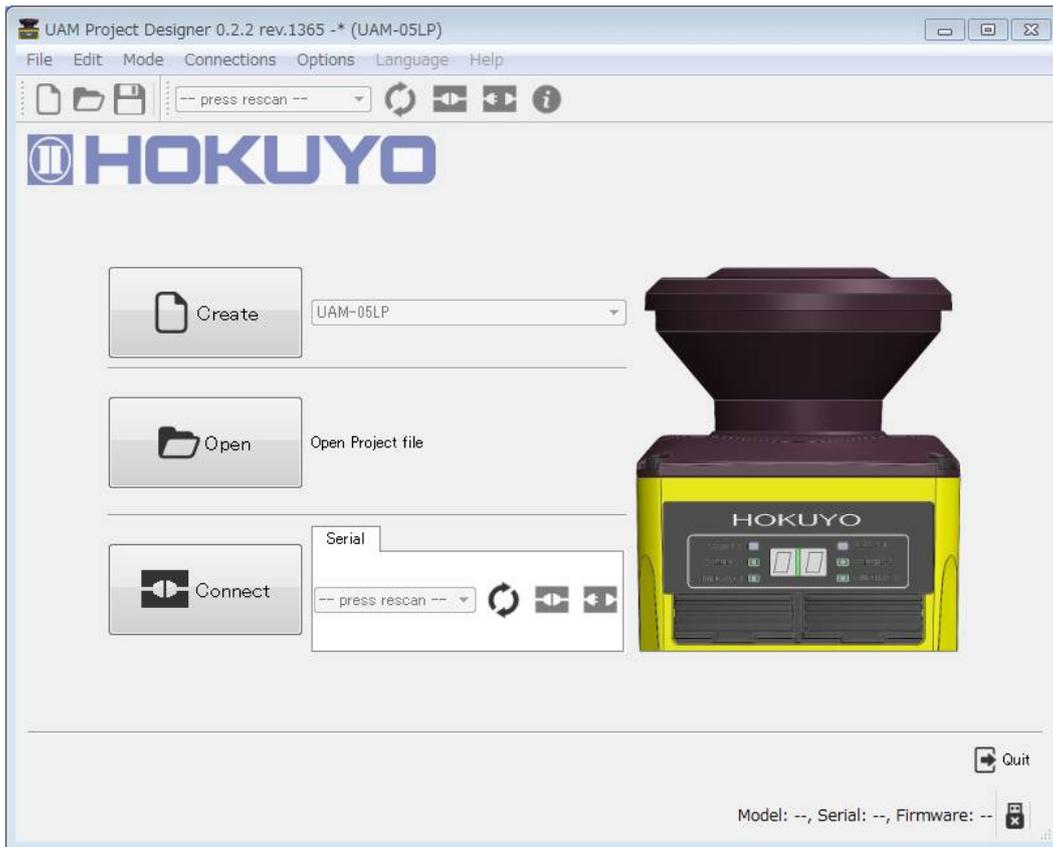

Figure 7-16 Main window
- a) Main window as shown in figure 7-16 will be displayed when UAM project designer starts.